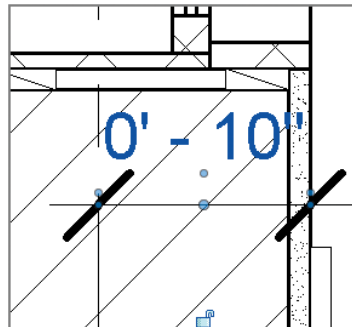

FIGURE 11.22 Dimensioning the wall location
5. Add another dimension that locates the gypsum board relative to the grid line (Figure 11.22). By default, the exterior face of the gypsum board won't highlight to accept the dimension. With your mouse hovering over the right edge of the gypsum board, press the Tab key, and you can place the other side of the dimension string.